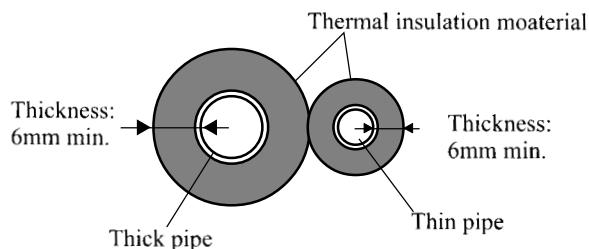

Fig 106
- (1) To avoid condensation dew and leakage of water, the thick pipe and thin pipe should be wrapped with thermal insulation material and gummed tape for insulation (see Fig. 106).